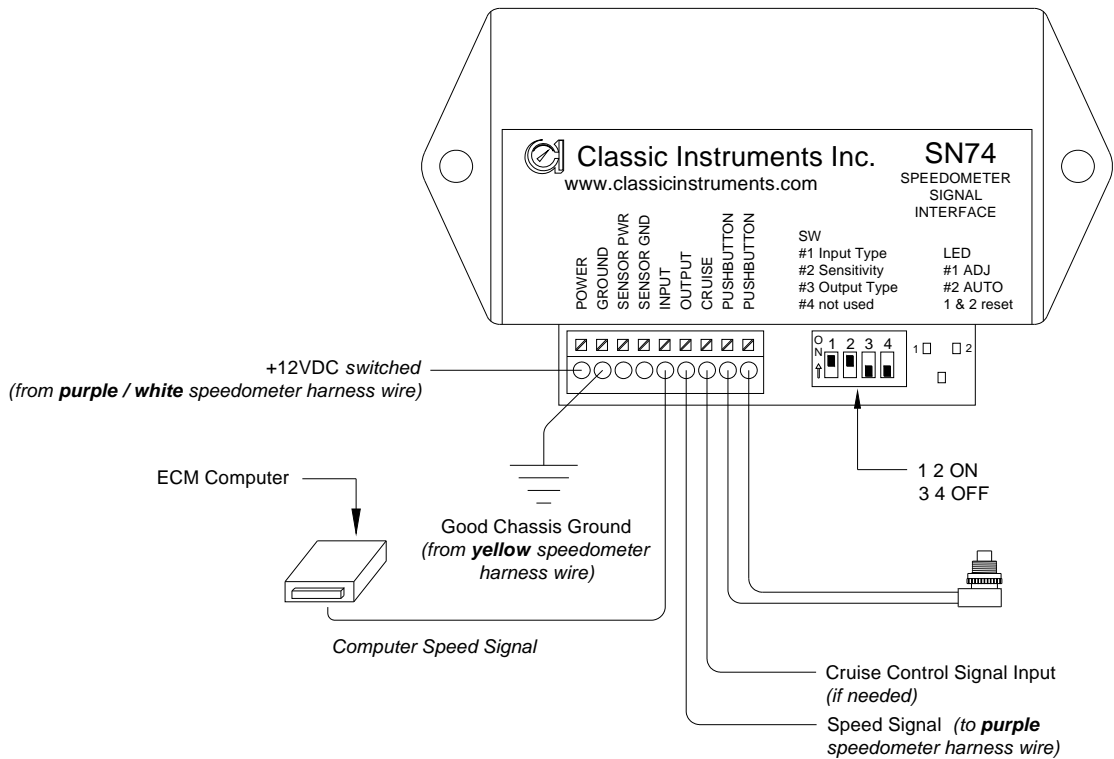

Figure 3: Computer Speed Signal
- c. Computer speed signal wire. (*see figure 3*)